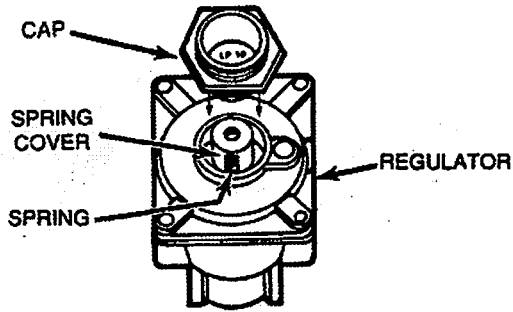

FIGURE 13
5. Use a wrench to unscrew the aluminum cap (fig. 13) by turning counterclockwise. Turn the cap over so the hole end is up. Place the gasket between the cap and regulator. Then place the cap and *gasket* on the regulator and tighten. **DO NOT OVERTIGHTEN.**